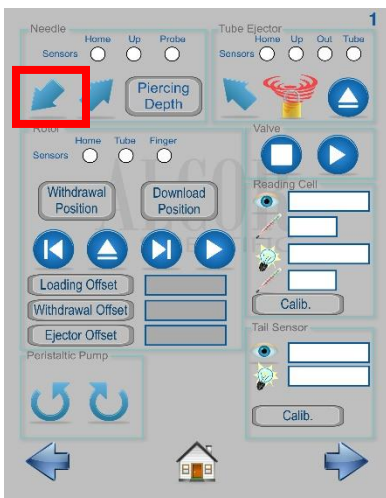

Figure 7
8. Once timer alarms press the “Needle Down” icon highlighted in red in Figure 7.